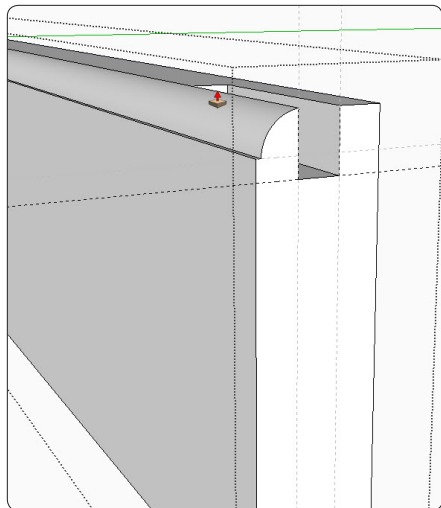

Figure 78. Draw the thumbnail profile and groove in the stile, then push those shapes the full length of the component.
Step 6 Copy the lower rail and move it away from the model to work on temporarily. Draw the shape of the thumbnail molding and the groove, as shown in Figure 78. Use the Push/Pull Tool to push each shape the full length of the rail. Do the same to